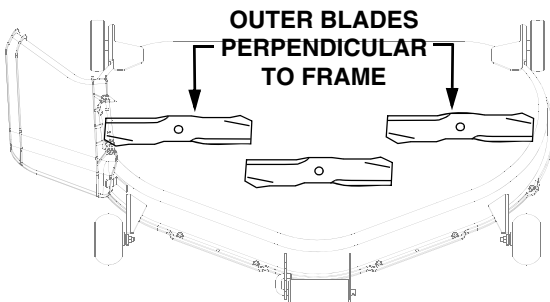

Figure 28
4. Carefully rotate the outer cutting blades so that they are positioned perpendicular to the tractor frame (See Figure 28). Then lower the deck to a mid-height setting using the tractor implement lift handle.